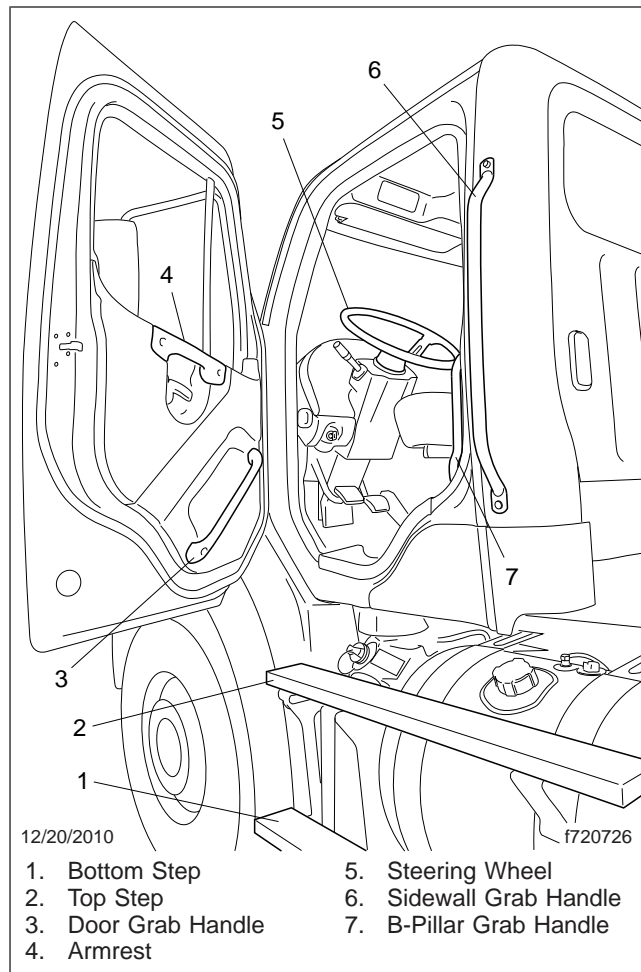

Fig. 2.4, Cab Access System, Driver's Side
2. Grasp the B-pillar grab handle with your right hand. See Fig. 2.4.
2. Grasp the steering wheel with both hands, place your left foot on the top step, then stand on the threshold facing into the cab. See Fig. 2.4.